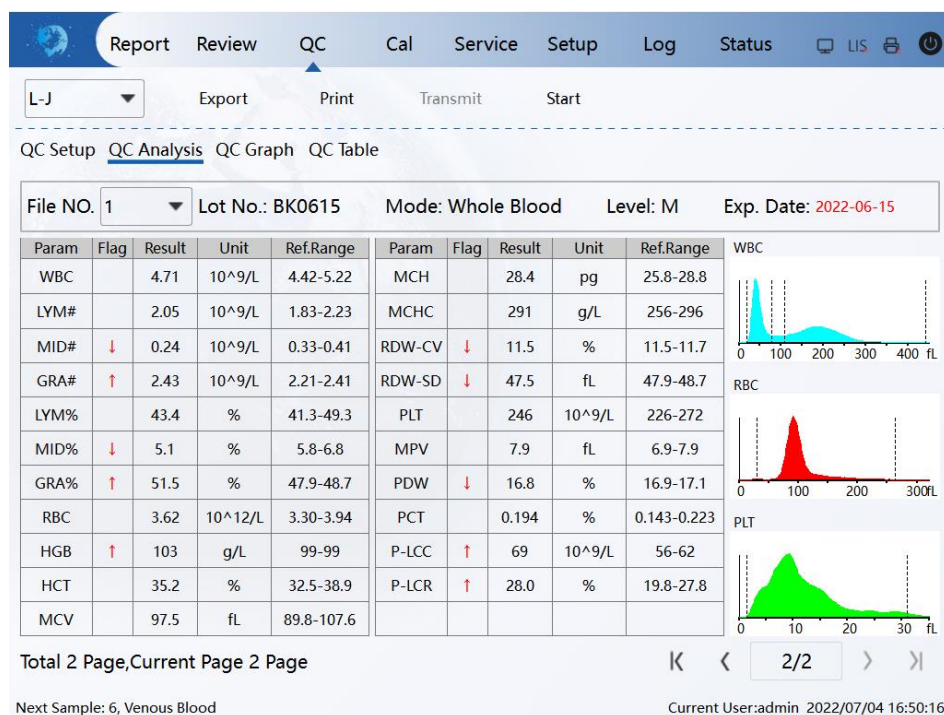

Figure 5-2 QC file information
3. Select the File No. to perform the QC analysis. As shown in Figure 5-2, the interface displays the corresponding QC information.